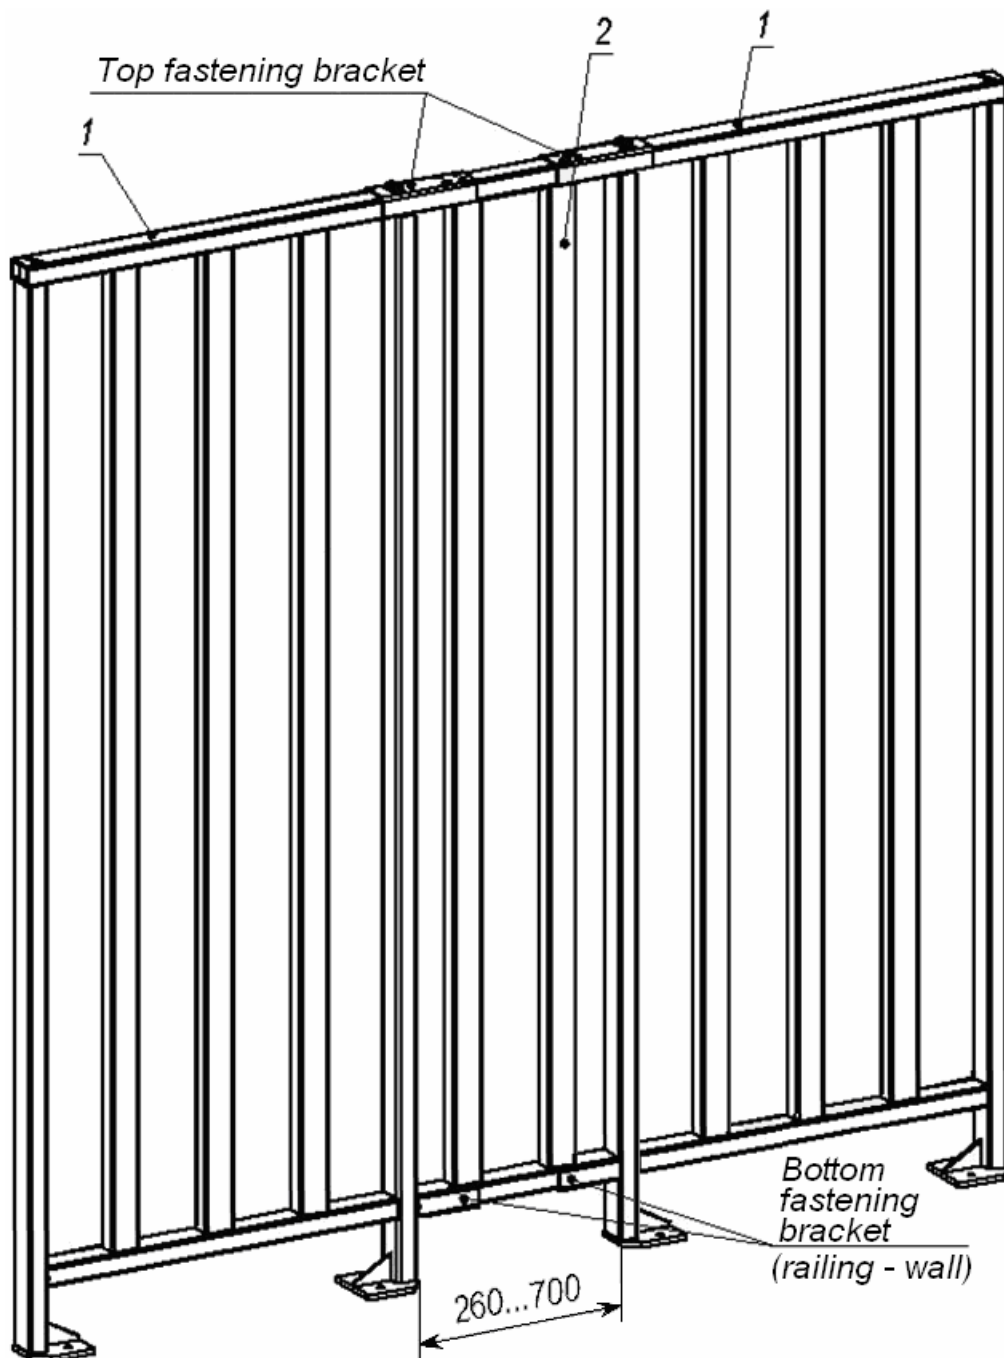

Figure 2 Sample design of the railings:
Railing sections of both modifications are made of durable aluminum and covered with high quality powder paint. An example of the railings connected in one unit is shown in Figure 2.
6. The MB-15D extension section can be cut according to the gap width. The length of the additional section can be reduced to 260 mm if necessary (Ref. Figure 2).